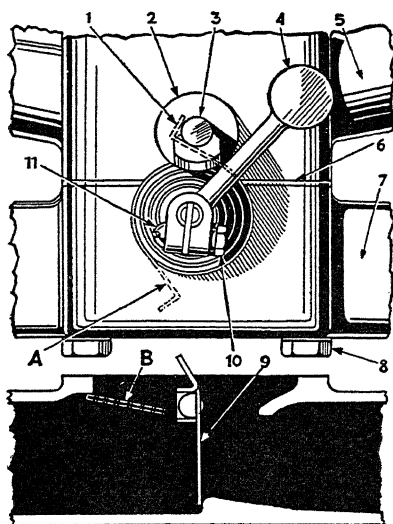

Fig. 93. Automatic Manifold Heat Control Valve and Thermostat (DeLux, PE Model)
**Manifold Heat Control.** The exhaust manifold on the DeLuxe "PE" Model is equipped with an automatic heat control, Fig. 93, which regulates the amount of heat by-passed around the inlet manifold heater body. The operation of the heat control on the DeLuxe "PE" Model is fully automatic and no adjustments are required. The heater valve plate 9, valve plate shaft, and bushings are made of special metals which will not corrode, thereby eliminating the possibility of the valve sticking. An occasional check should be made to insure that the valve is free and is not restricted in its operation.
heat control shaft in the position illustrated at *A*, Fig. 93, and then turned 200 degrees and the end of the thermostat *1* placed under the elbow *3*. If the thermostat installation is correctly made, the heat control counterweight arm *4* will be back against its stop *2*, as shown in the illustration, when the manifold is cool.